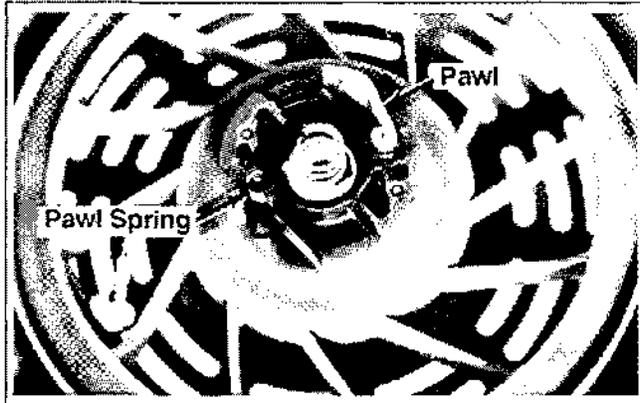

Figure 7-10. Installing Pawls And Pawl Springs.
3. Install the pawls springs and pawls into the starter pulley. See Figure 7-10.